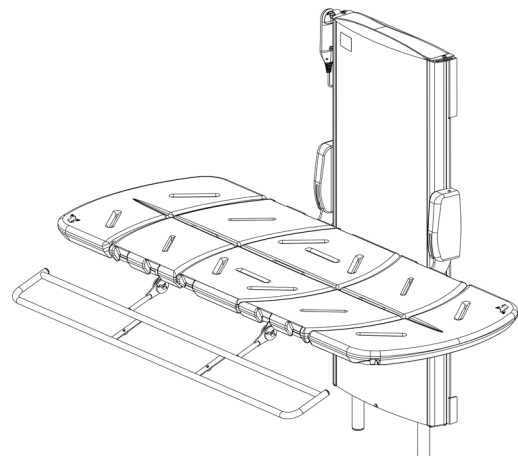

Fig 6.5b
- Pull down on the front edge of the guard so it rotates down. Take care not to let go as it may swing around on its own. (Fig 6.5b)